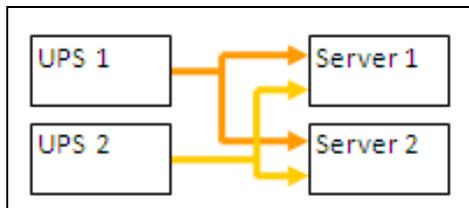
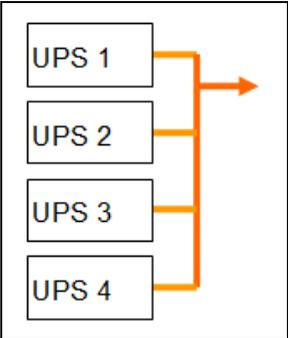

Figure 98. Redundant Supplies
Figure 101. Parallel Redundancy Schema
Figure 98 to Figure 101 illustrate the electrical redundancy topologies.
- **Redundant supplies (such as dual feeds or triple feeds):** Figure 98 illustrates a scenario when two UPSs provide power on one or several multiple-feed servers.
- **Parallel for two or more components:** All the UPSs power the load at the same time (see Figure 101).